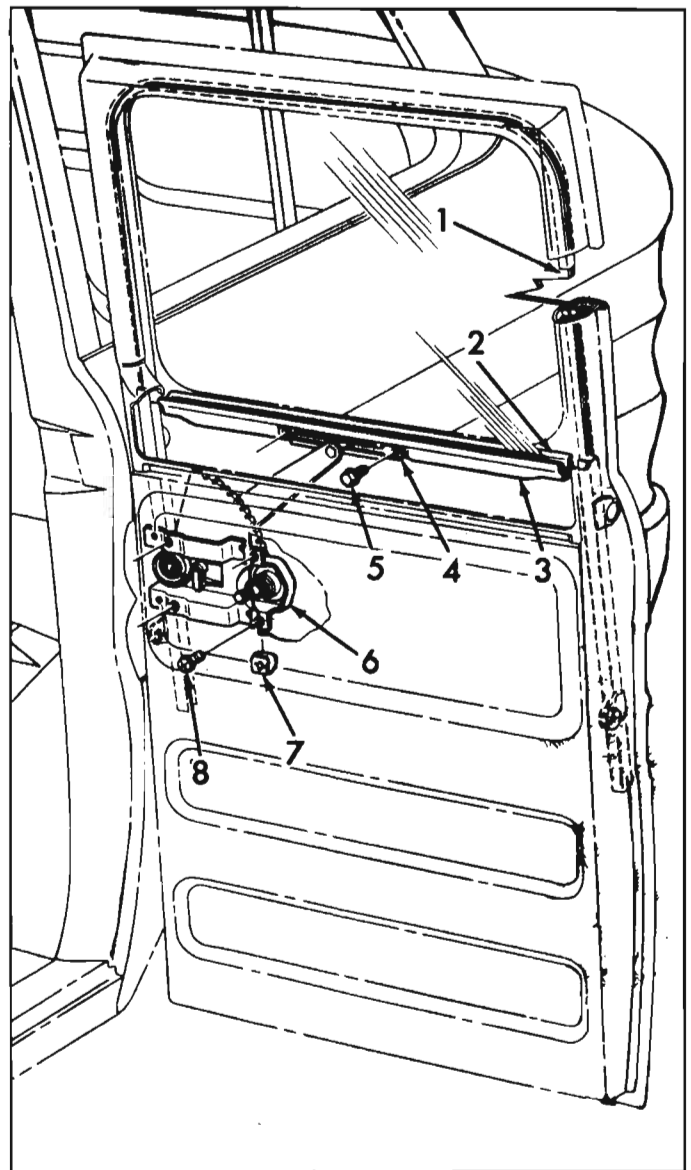

Fig. 10-65a—Window Regulator and Glass
3. Remove guide rail retaining screws, and remove guide rail from window regulator arm (fig. 10-65a). Remove window regulator.
5. Install guide rail (4, fig. 10-65a) and regulator arm to guide rail. Install retaining screws (5, fig. 10-65a) to guide rail.
5. Install window assembly and engage regulator idler arm into guide rail (fig. 10-65a).